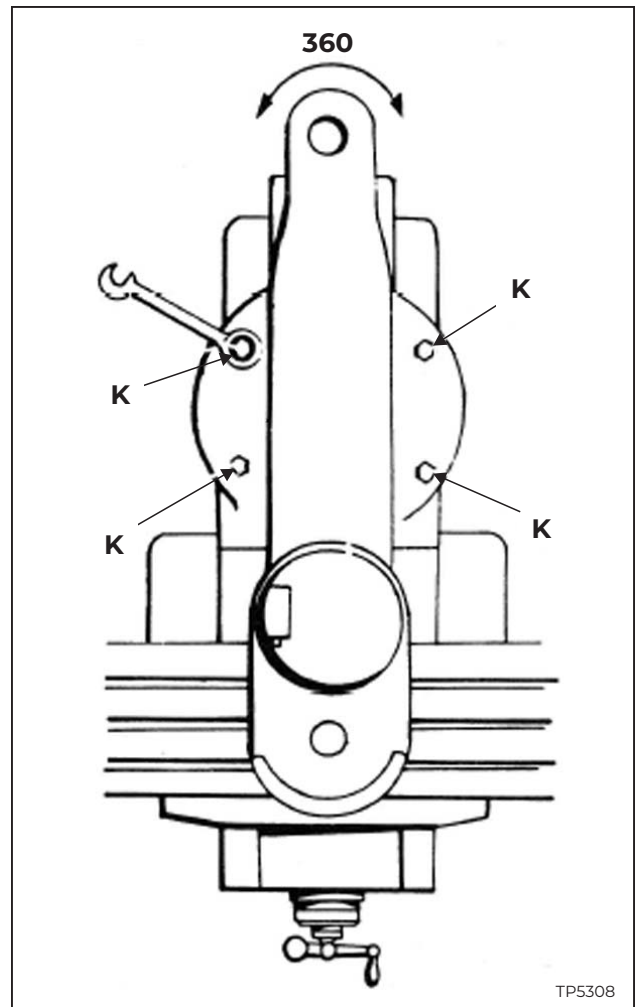

Figure 2.24 - Swivel Turret
1. Use wrench supplied with machine to loosen the four bolts "K", Figure 2.24